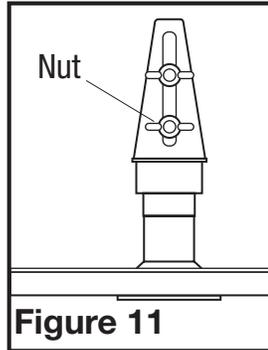

**Figure 10**
- To remove the filters, pull down on the handle tab until the filter releases from the unit. To reinstall, slide tab at rear of filter into slot in the unit. While holding in handle of filter, lift filter into place and release handle. The filter should snap securely into place (**Figure 10**).